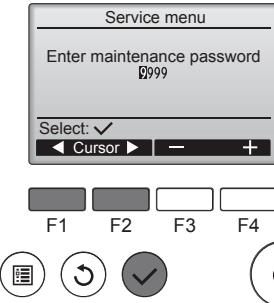

Fig. 7-3
- ① Select "Service" from the Main menu, and press the  button.
- ② When the Service menu is selected, a window will appear asking for the password. (Fig. 7-3)